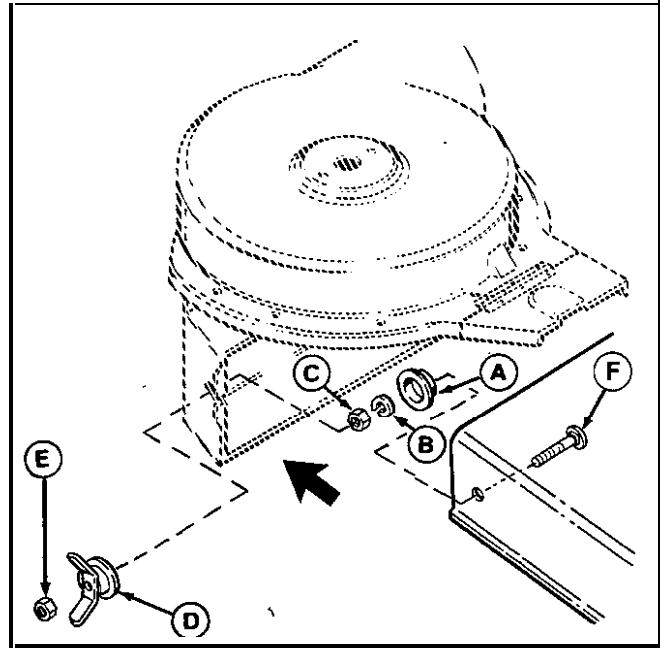

Figure 9.
12. Install wing nut (D, figure 9) as follows:
- From inside deck, install new $5/16-18 \times 2-1/4$ carriage bolt (F, figure 9). Then install the cup (A), $5/16$ lockwasher (B), and $5/16$ nut (C). Tighten the nut.
- Thread the wing nut (D) far enough onto the screw so that **the $5/16$ locknut (E)** can be threaded on flush with the end of screw.